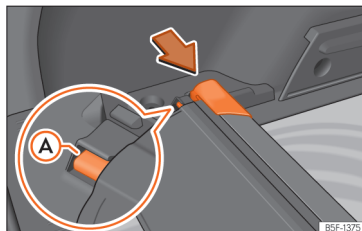

Fig. 181 In the boot: space to store the retractable shelf.
- Press the head of the retractable shelf in the direction of the arrow until it engages in its housing >>> Fig. 181. Make sure that slide (A) fits into the corresponding housing.